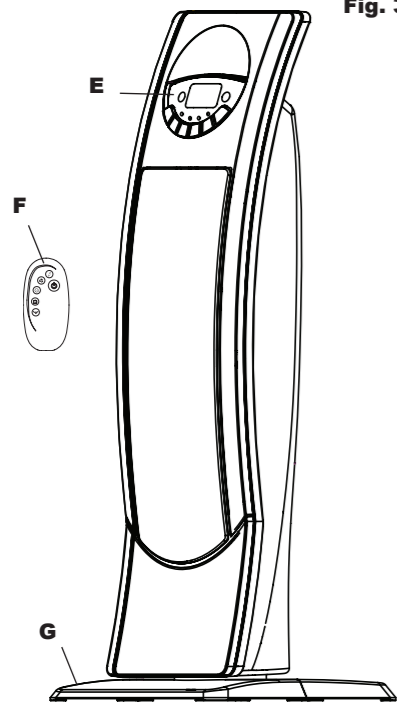

Fig. 3
Step 3: Turn the heater right side up on a flat level surface prior to beginning operation. (Refer to Fig. 3)